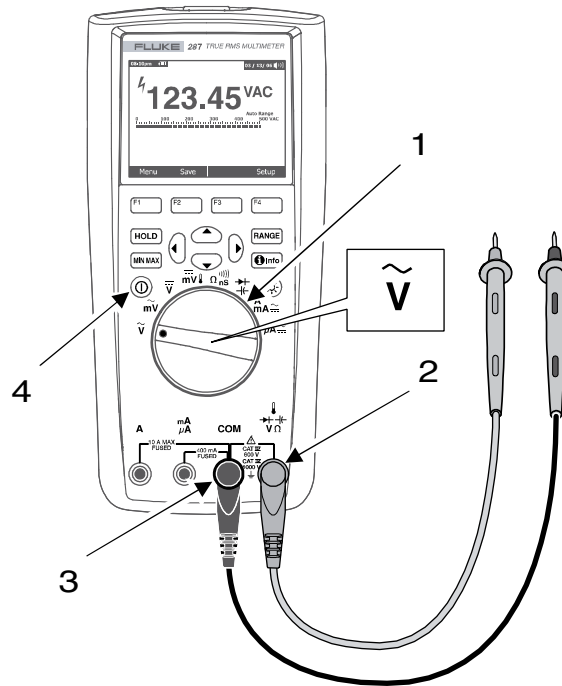

Figure 4. Multimeter Shown in AC Voltage Mode
1. Insert the black test lead into the COM terminal (Figure 4., Item 3).
2. Insert the red test lead into volts/resistance terminal (Figure 4., Item 2).
3. Press the On/Off button (Figure 4., Item 4) to turn the multimeter on.
- Rotate the rotary switch (Figure 4., Item 1) to the V~ (regular voltage checks) or to the mV~ (very low voltage checks) position.